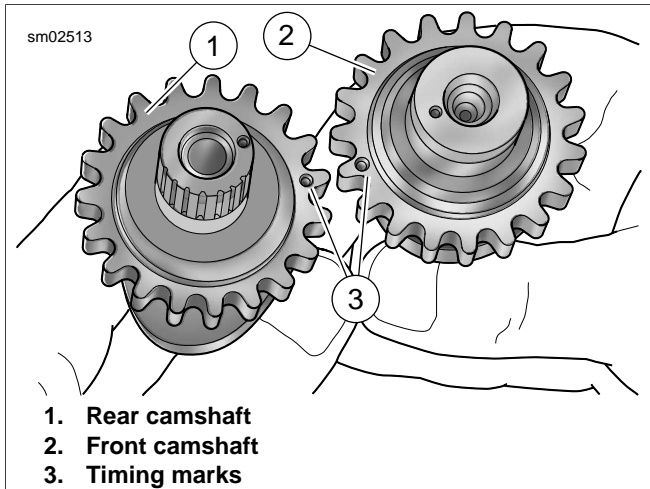

Figure 3-109. Camshaft Timing Marks
- See Figure 3-109. Align timing marks on teeth of secondary cam sprockets (outboard faces).